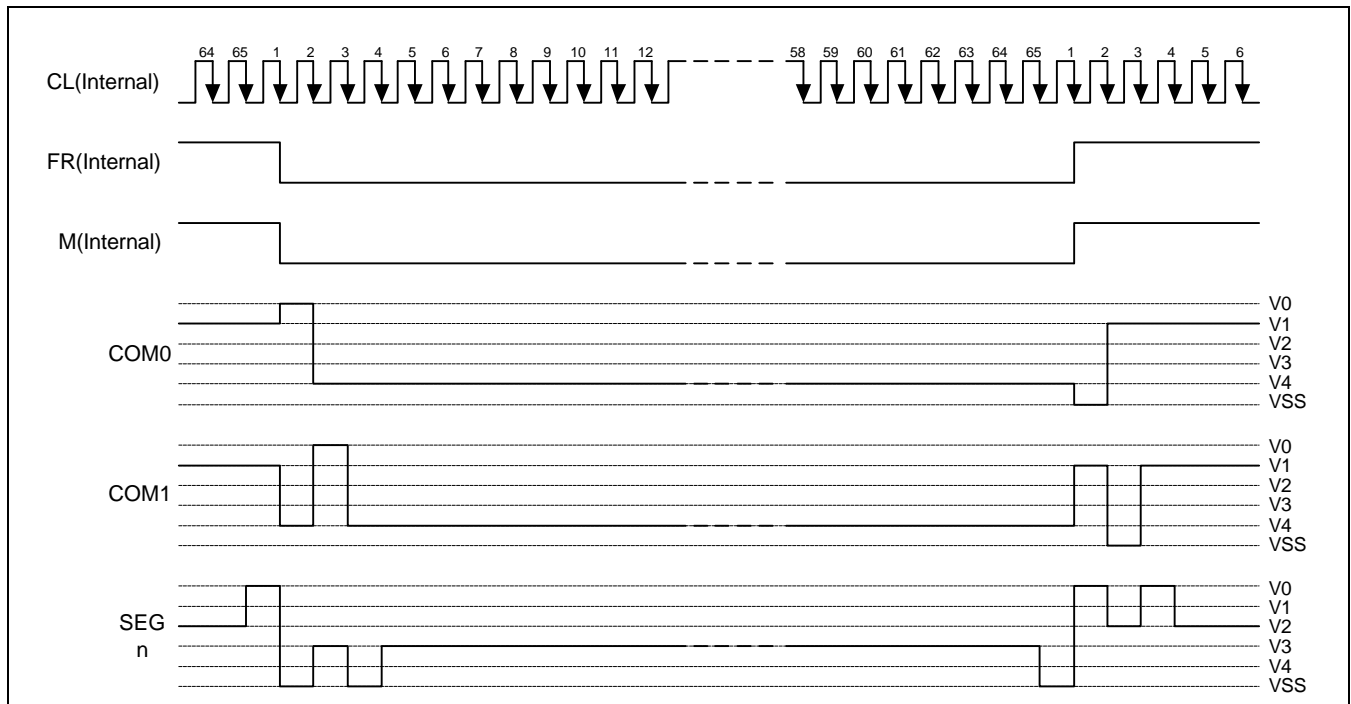

Figure 11. 2-frame AC Driving Waveform (Duty Ratio = 1/65)
This circuit generates some signals to be used for displaying LCD. The display clock, CL(internal), generated by oscillation clock, generates the clock for the line counter and the signal for the display data latch. The line address of on-chip RAM is generated in synchronization with the display clock and the display data latch circuit latches the 128-bit display data in synchronization with the display clock. The display data, which is read to the LCD driver, is completely independent of the access to the display data RAM from the microprocessor. The display clock generates an LCD AC signal (M) which enables the LCD driver to make a AC drive waveform, and also generates an internal common timing signal and start signal to the common driver. The frame signal or the line signal changes the M by setting internal instruction. Driving waveform and internal timing signal are shown in Figure 11.